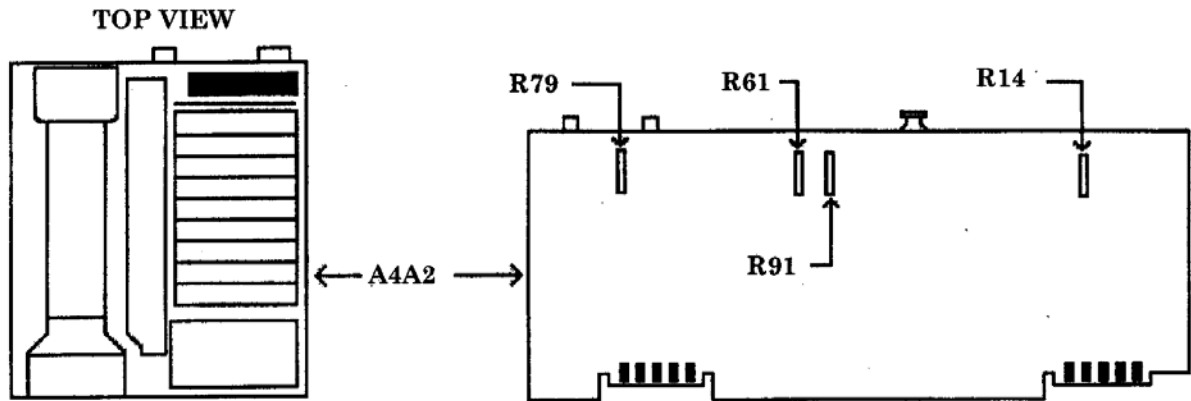
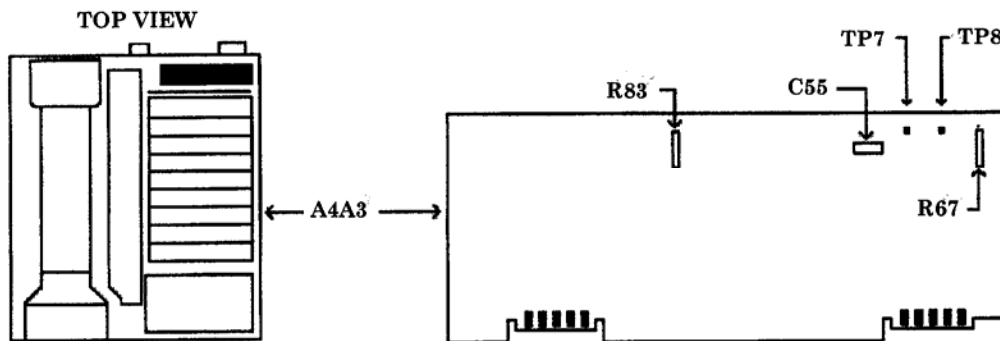

Figure 24. A4A2 board.
Figure 25. A4A3 board.
(34) Adjust A4A2R79 (fig. 24) for  $0.0000 \pm 0.0005$  V dc
(35) Press **TI SCALE LOG** key.
(36) Connect **TI RF INPUT** to synthesizer/level generator **50Ω OUTPUT**.
(37) Set synthesizer/level generator for an output frequency of 7.6 MHz at an output level of 5 dBm.
(38) Adjust A4A3C55 (fig. 25) for a maximum multimeter indication.
- (39) Short A4A3TP7 to A4A3TP8 (fig. 25) and record multimeter indication.
- (40) Remove short from between A4A3TP7 and A4A3TP8.
- (41) Adjust A4A3R67 (fig. 25) for a multimeter indication the same as that recorded in (39) above  $\pm 0.0005$  V dc (R). If TI can not be adjusted to meet this tolerance then TI must be repaired.
- (42) Press TI **SCALE LIN** key.
- (43) Adjust synthesizer/level generator output level for a multimeter indication of  $1.000 \pm 0.002$  V dc.
- (44) Press TI **SCALE LOG** key.
- (45) Decrease synthesizer/level generator output level by 50 dBm.
- (46) Adjust A4A2R91 (fig. 24) for a multimeter indication of  $0.500 \pm 0.001$  V dc (R).
- (47) Increase synthesizer/level generator output level by 50 dBm.
- (48) Adjust A4A2R61 (fig. 24) for a multimeter indication of  $1.000 \pm 0.001$  V dc (R). If TI can not be adjusted to meet this tolerance then TI must be repaired.
- (49) Press TI **SCALE LIN** key.
- (50) Multimeter should indicate  $1.000 \pm 0.020$  V dc. If multimeter indication is out of tolerance then TI must be repaired.
- (51) Press TI **REFERENCE LEVEL, 0**, and **dBm** keys.
- (52) Adjust synthesizer/level generator output level for a multimeter indication of  $1.000 \pm 0.001$  V dc.
- (53) Press TI keys as listed in (a) through (c) below:
- (54) Decrease synthesizer/level generator output level by 10 dBm.
- (55) Adjust A4A3R83 (fig. 25) for a multimeter indication of  $1.000 \pm 0.010$  V dc. If multimeter indication is out of tolerance then TI must be repaired.
- (56) Press TI **REFERENCE LEVEL, 70**, and **-dBm** keys.
- (57) Decrease synthesizer/level generator output level by 10 dBm.
- (58) Adjust A4A2R14 (fig. 24) for a multimeter indication of  $1.000 \pm 0.010$  V dc. If multimeter indication is out of tolerance then TI must be repaired.
- (59) Press TI **2-22 GHz** key.
- (60) Disconnect synthesizer/level generator **50 $\Omega$  OUTPUT** from TI **RF INPUT**.
- (61) Connect TI **CAL OUTPUT** to TI **RF INPUT**.
- (62) Press TI keys as listed in (a) through (g) below: